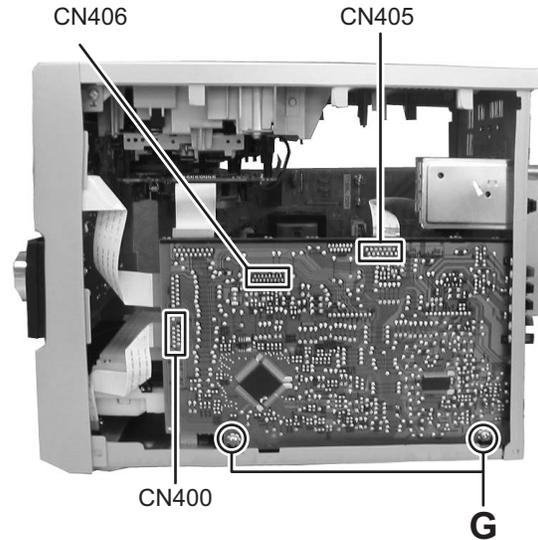

Fig.6
3.1.4 Removing the tuner pack (See Fig.6, 7)
- (1) Disconnect the card wire of the tuner pack from connector CN405 of the micon board. (See Fig.6)
3.1.5 Removing the micon board (See Fig.6 to 8)
- (2) Disconnect the card wires from connectors CN400, CN406 of the micon board. (See Fig.6)
- (4) Remove the two screws **G** attaching the micon board. (See Fig.6)
- (6) Solder to short land part **j** of pickup. (See Fig.6)
- (7) Release the lock of connector **CN601** to direction of the arrow 2 and disengage the card wire. (See Fig.6)
- Solder to short land part **j** of the pickup then disconnect the card wire from connector **CN601** of the CD servo board. If disconnect the card wire before soldering, pickup is make sure destroyed by static electricity. (See Fig.6)